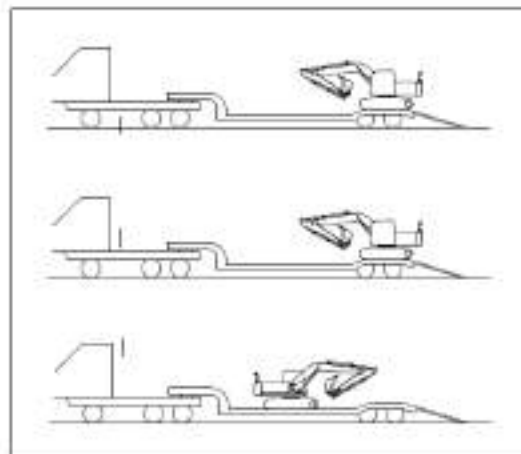

Figure 6-4 Precautions for loading (III)
i). Slowly slew the upper structure for 180° so that the working device faces the rear (Figure 6-4).